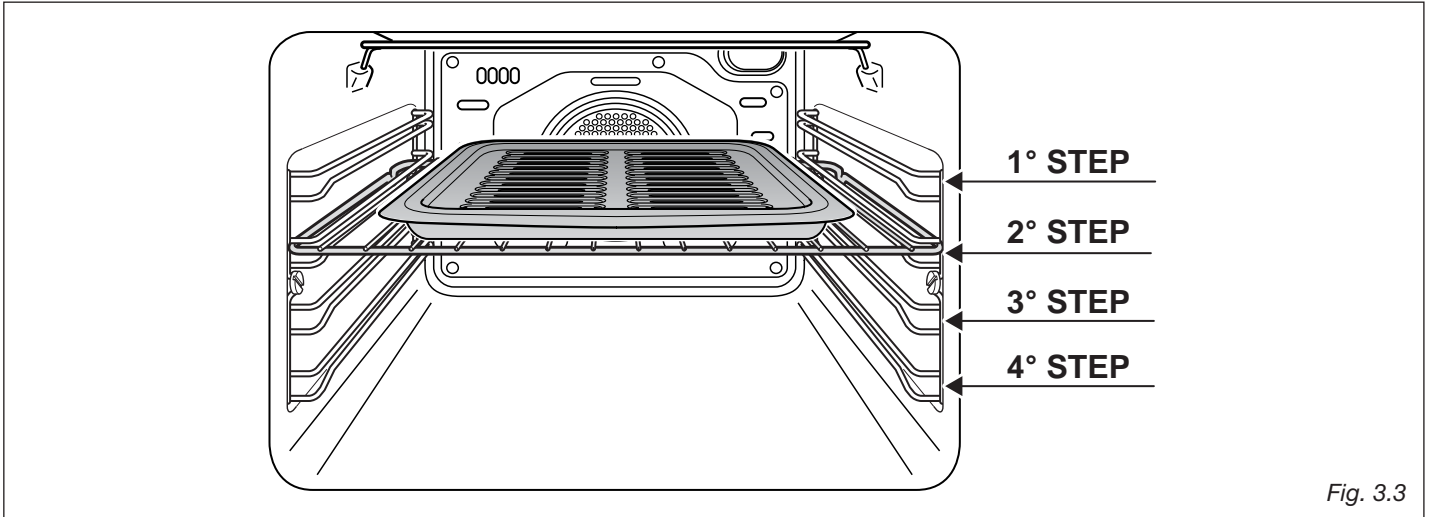
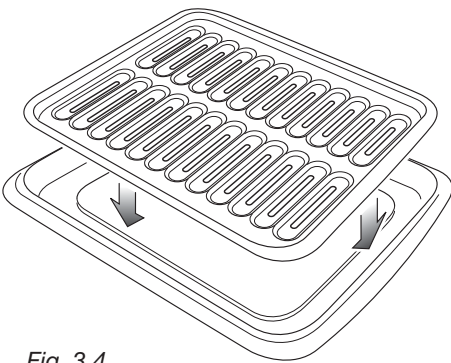

Fig. 3.3
Fig. 3.4
- Position the shelf on the first or second level from the top (fig. 3.3).
- Introduce the broiler pan (fig. 3.4) in the oven. The broiler pan should be placed above the shelf and it should be centered with the broil element (fig. 3.3).